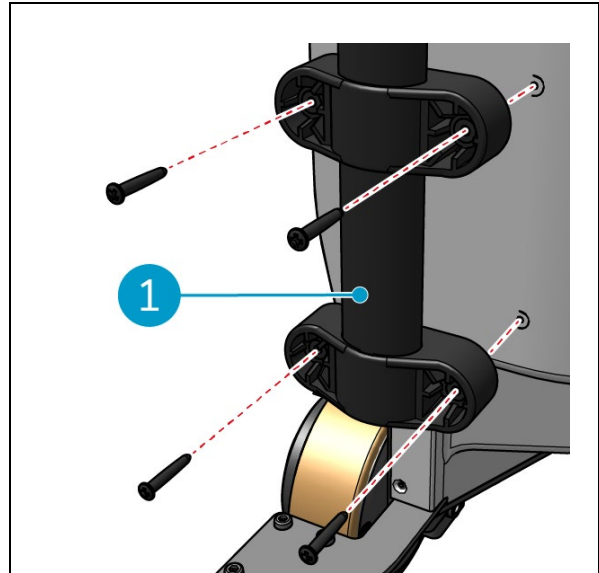

Figure 17
1. Install both trolley handles (Figure 17, pos. 1) on the i-walk with a Phillips head screwdriver.